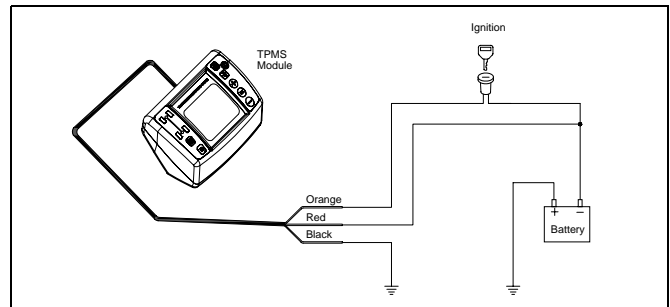

Figure 8 Wiring Diagram
1. Insert the Power Supply Cable connector into Receiver socket, which is located at the top rear. Refer Figure 8.